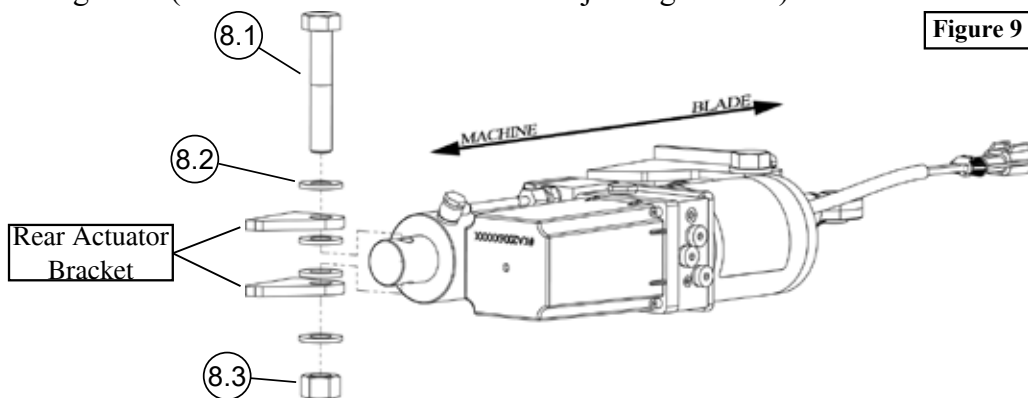

Figure 9
1. Place bolt (8.1) through flat washer (8.2), top tab of rear actuator bracket, flat washer (8.2), Hydraulic Actuator (7), flat washer (8.2), bottom tab of rear actuator bracket, and flat washer (8.2). Place nylock nut (8.3) onto bolt (8.1) as shown in Figure 9. (This orientation of hardware is just a guideline)
1. Place bolt (8.1) through flat washer (8.2), top tab of rear actuator bracket, flat washer (8.2), Hydraulic Actuator (7), flat washer (8.2), bottom tab of rear actuator bracket, and flat washer (8.2). Place nylock nut (8.3) onto bolt (8.1) as shown in **Figure 9**. (This orientation of hardware is just a guideline)